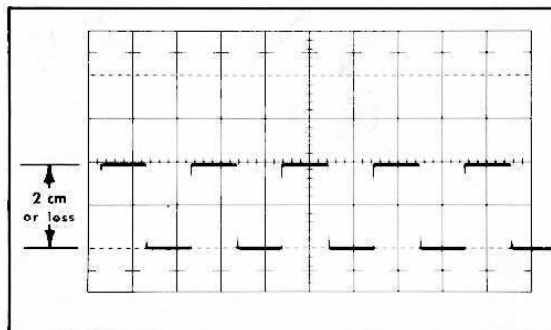

Fig. 5-2. Checking the VARIABLE control 2.5:1 ratio. This display is within the 2-cm maximum amplitude requirement.
- g. Check—Display amplitude is 2 cm or less (attenuation ratio 2.5:1 or more) and the UNCAL neon indicator is lit. See Fig. 5-2.